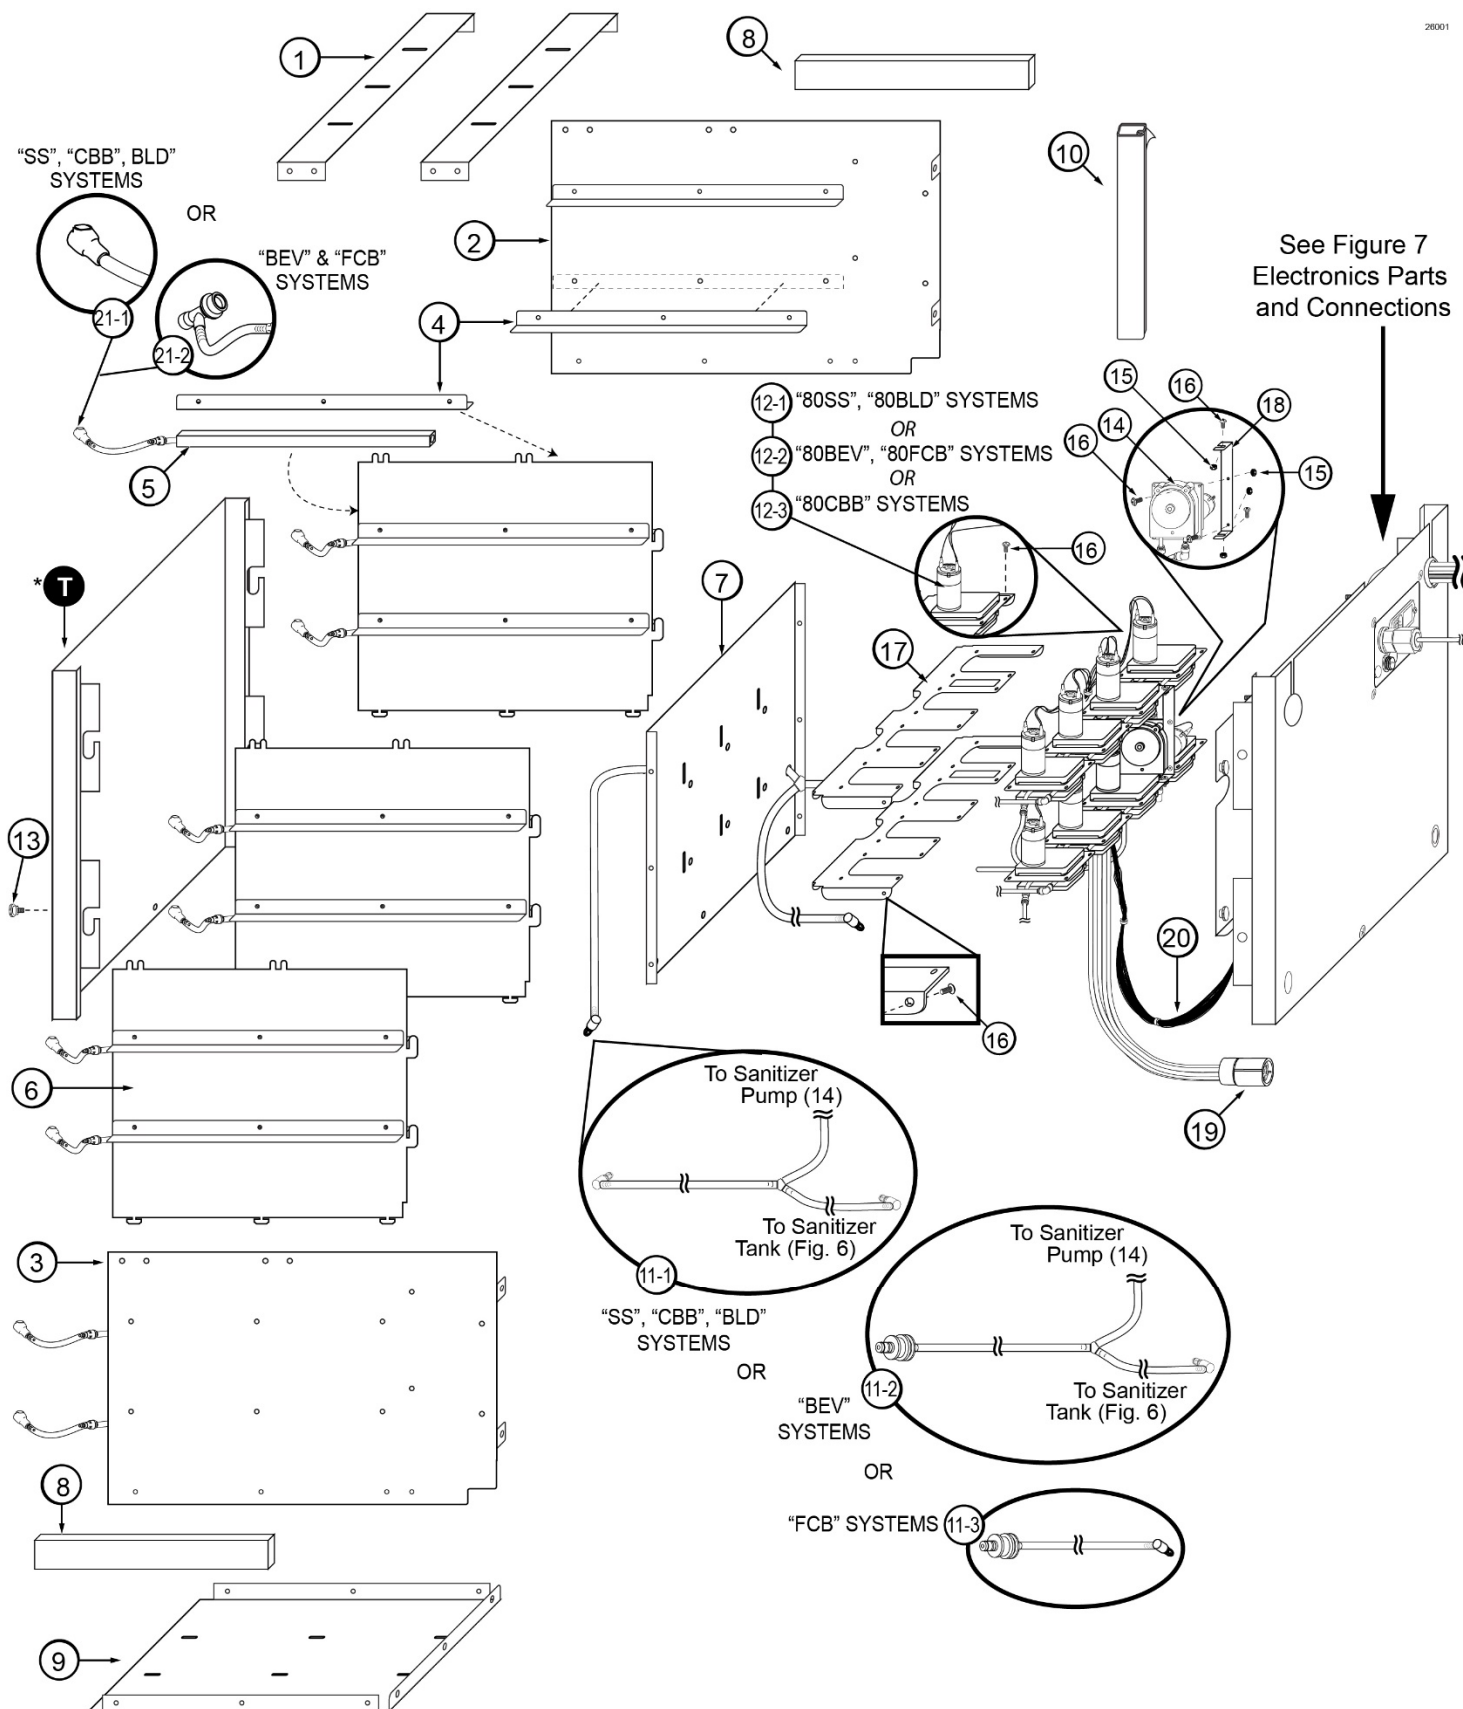

Figure 2
**Integrated-2S Cabinet (See Figure 2)**
# Integrated-2S Cabinet (See Figure 2)